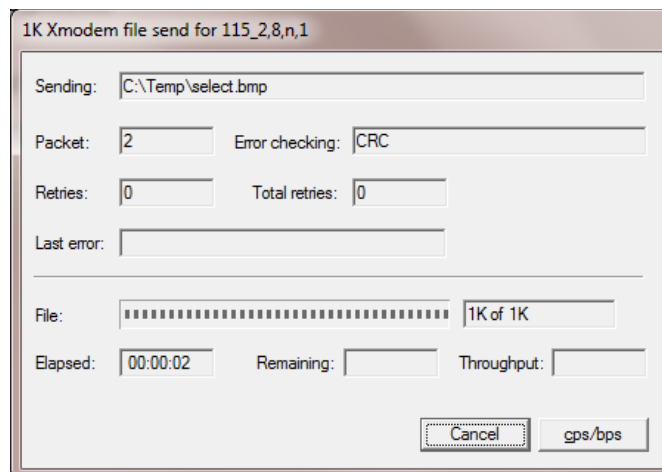

Figure C-8: Windows Transfer Window
11. The Send File window will close and a transfer window will open. This window shows the progress of the file transfer (Figure C-8).